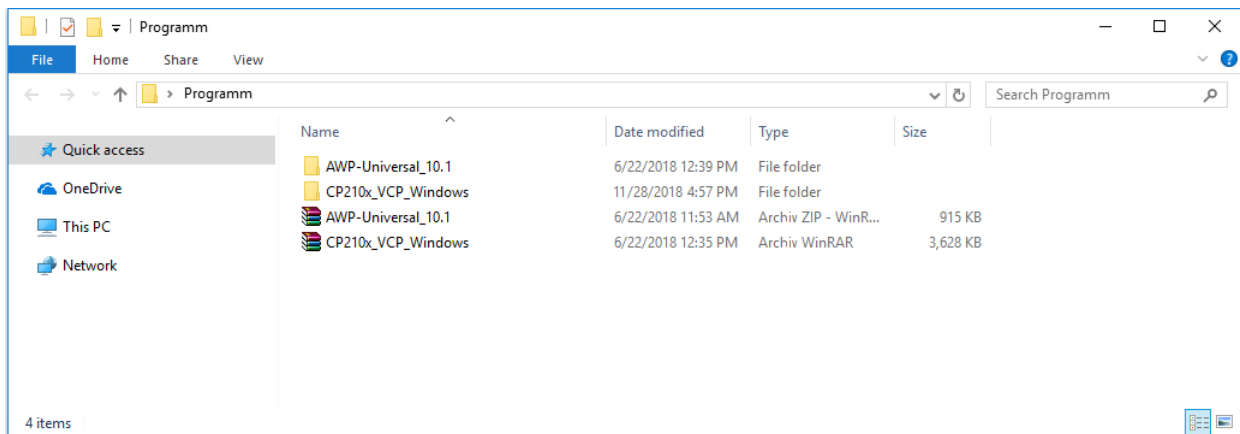

Figure 2.74 – Software downloaded
2. After downloading, open archive - two folders will be available: one with driver and other with program (Figure. 2.74).